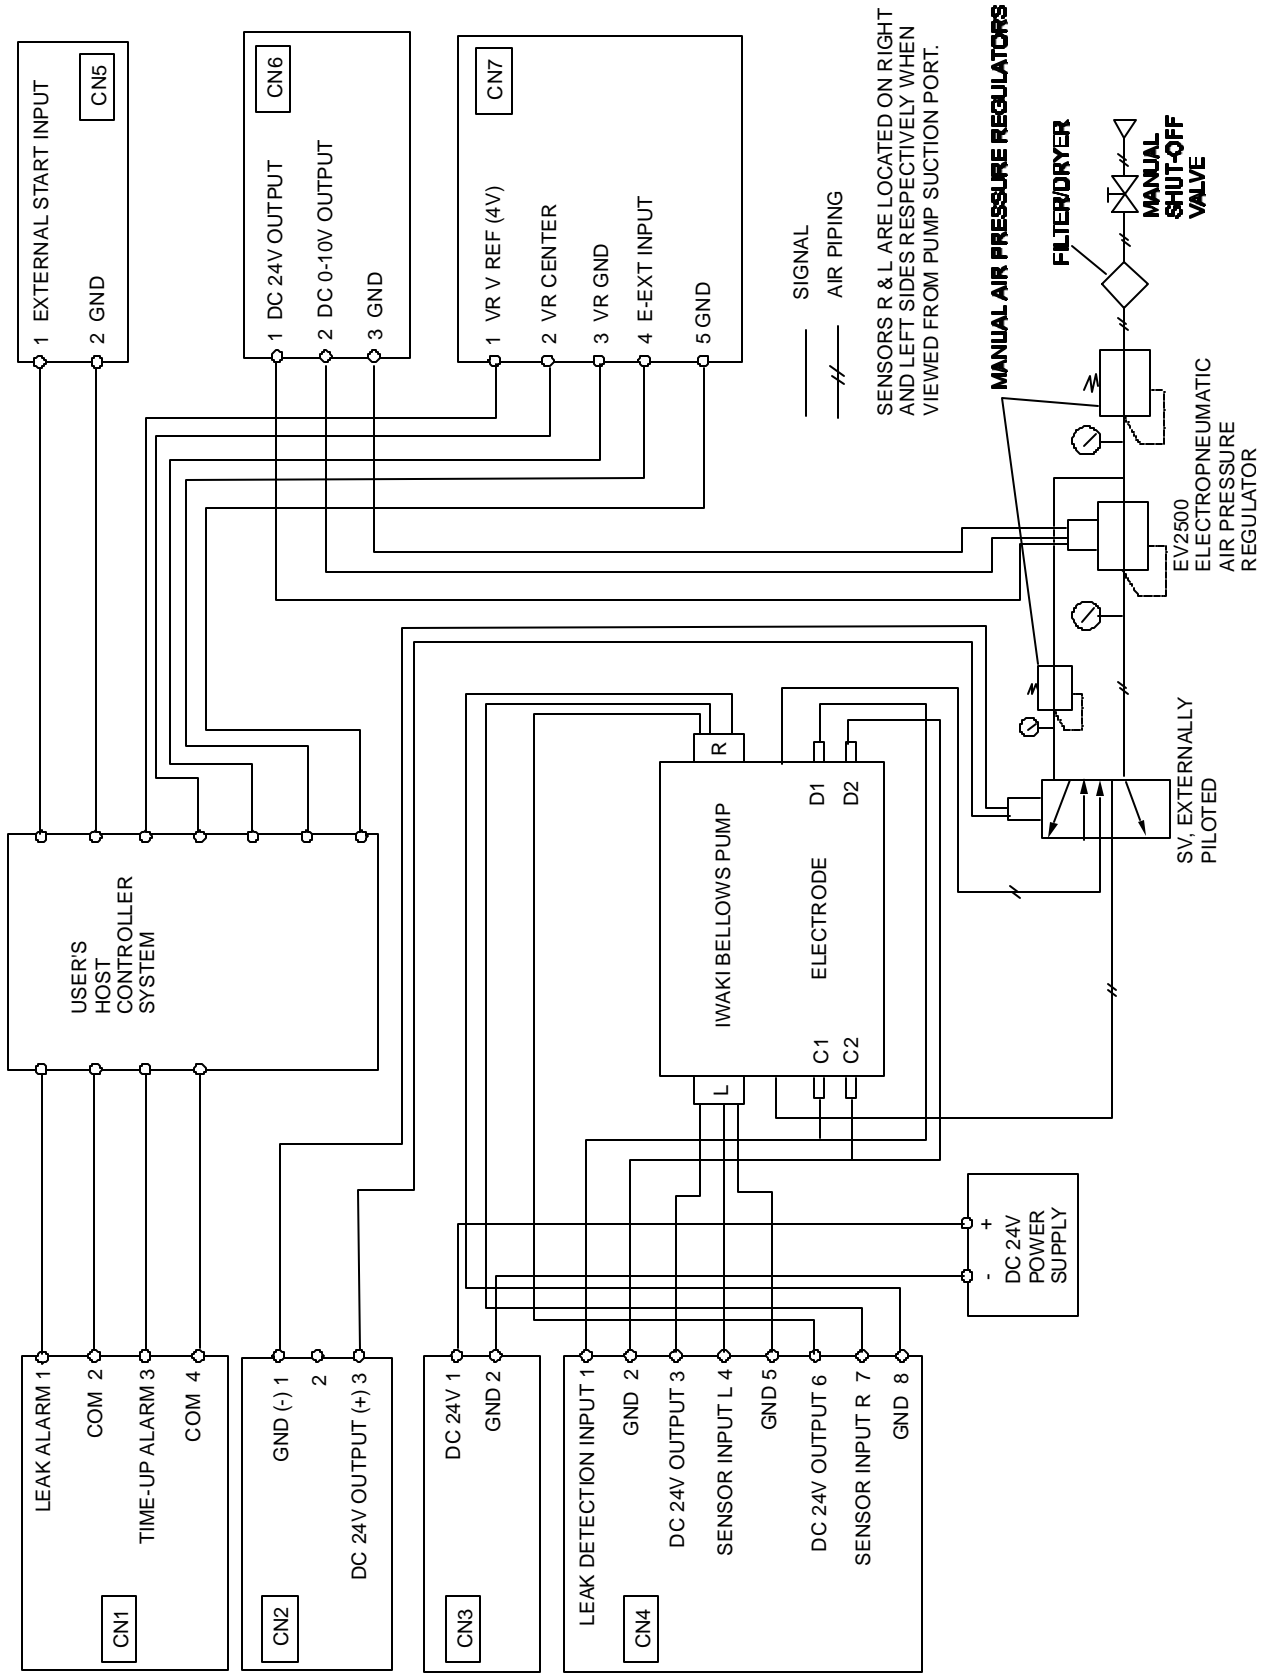

Figure 7 Basic Plumbing and Wiring
Figure 7 shows the basic wiring diagram of the pump controller. Refer to the diagram and follow the procedures described below to properly wire the unit. Note that faulty wiring may result in failure or malfunctioning of the controller or pump.
- C1, C2, D1 and D2 in Figure 7 are the electrodes within the pump unit. Connect the electrode lead in series with 1P and 2P of CN4, as shown in the diagram.
Refer to Figure 7 “Basic Wiring/Plumbing Diagram” while designing/installing the air line layout.
Faulty wiring.	Refer to Figure 7.